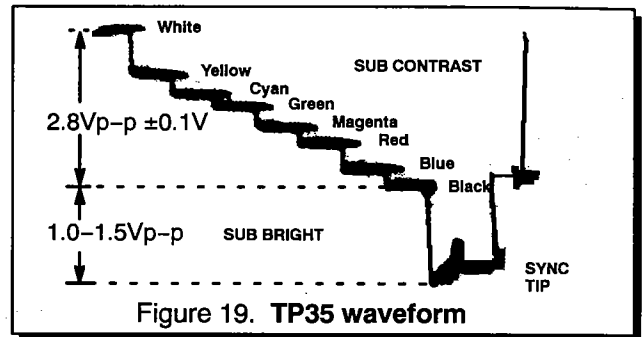

Figure 19. TP35 waveform
1. In the Serviceman Mode for electronic adjustments, select DAC Sub-Brightness Adjustment (B2) and adjust for 1.0-1.5Vp-p between blanking and 7.5 IRE level so that the black level cannot be compressed. (see video waveforms detail, Figure 19).
2. In the Serviceman Mode for electronic adjustments, select DAC Sub-Contrast Adjustment (B3) and adjust for 2.8Vp-p \pm 0.1V from white level to black level on video waveform (see video waveforms detail, Figure 19).